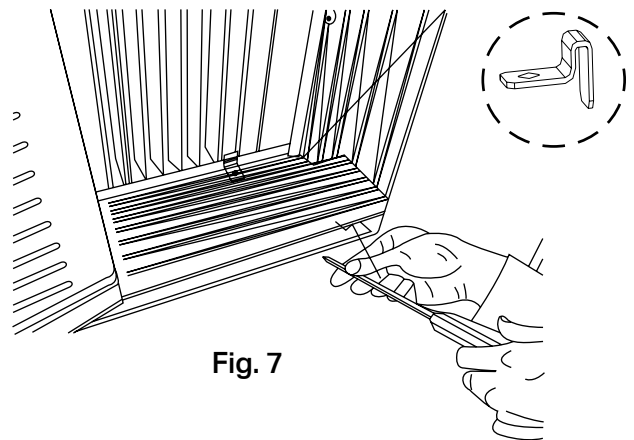

Fig. 7
- A. Place the frame lock between the frame extensions and the window sill as shown in **Fig. 7**. Drive $\frac{3}{4}$ " (19 mm) or $\frac{1}{2}$ " (12.7 mm) locking screws through the frame lock and into the sill.